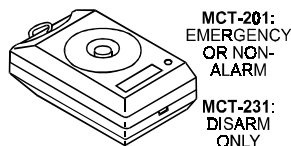

Figure 20. MCT-231 / 201
B. MCT-231 / MCT-201 (Fig. 20): Single-button pendant units. The MCT-231 (CodeSecure) and the MCT-201 (PowerCode) can be enrolled to perform functions as shown. Both units look alike.